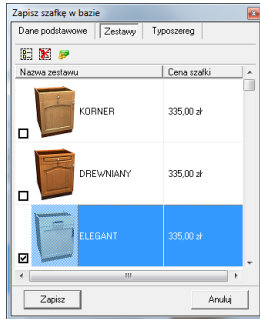
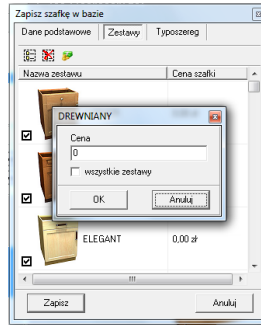

Fig. 187 – assigning the cabinet to sets
Fig. 188 – setting the price
- in the **Sets** tab (Fig. 187) it is possible to assign a cabinet to the selected sets in the database (e.g. with wanted front patterns), and set the price for the cabinet – identical for all sets or individually (Fig. 188);